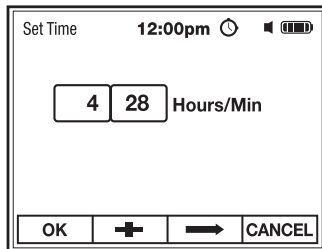

Fig. 28
2. Use the **F2 +** soft key to set numeric value (highlighted in red), (Fig. 28).
3. Use the **F3 ⇔** soft key to select Hours or Minutes (Fig. 28).
4. Press the **F1 OK** soft key to save setting and return to Date/Time Menu (Fig. 28).